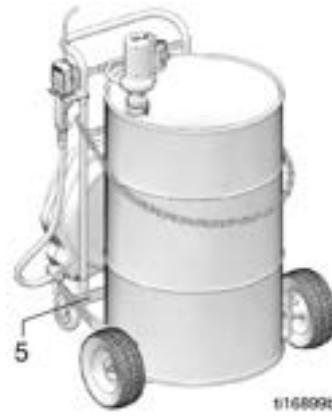

FIG. 34
6. Install the drum on the cart base (5) (FIG. 34).